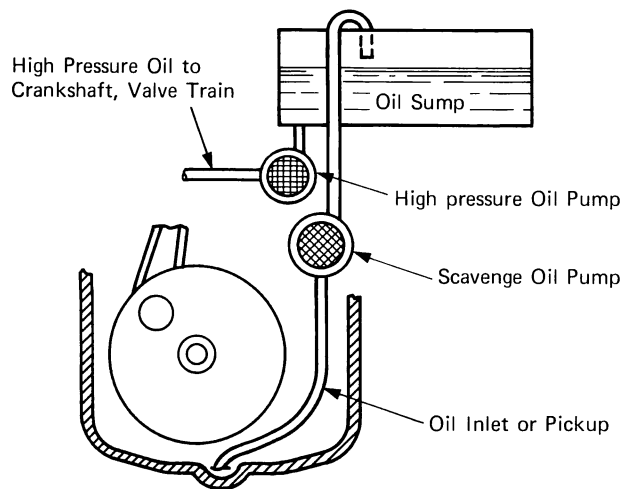

Fig. 14-6 Dry sump oil system
**Dry Sump.** In a dry sump system, oil is fed by gravity from a reserve tank to a high-pressure pump. The pump forces the oil through passages and lines to areas where it lubricates various components of the engine. Gravity returns the oil to a small sump at the bottom of the engine. A scavenger pump, often simply another set of chambers in the pressure pump, returns the oil through a one-way check valve to the oil tank reservoir. The scavenger pump is designed to return the oil to the tank much faster than the feed pump supplies it to the points of lubrication. Since the sump is always being pumped dry, imaginative engineers called this system "dry sump" (Fig. 14-6).